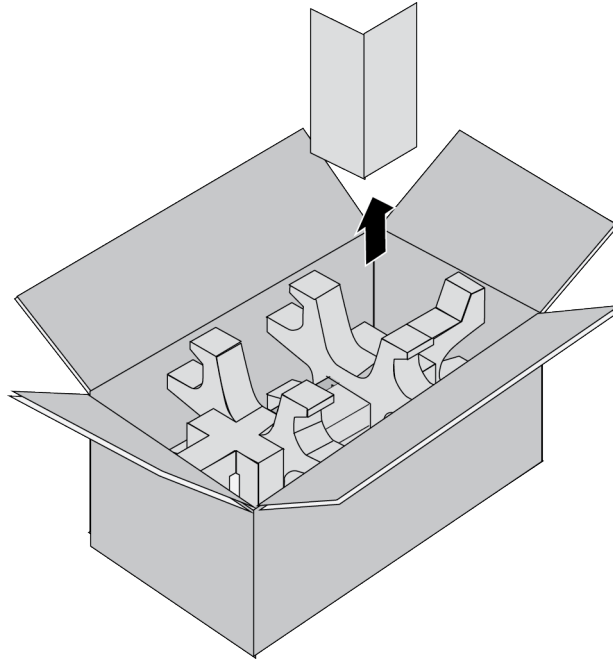

Figure 53. Removing the Partition from the PWR600 AC Power Supply Shipping Box
2. Remove the partition from the shipping box. Refer to Figure 53 on page 116.